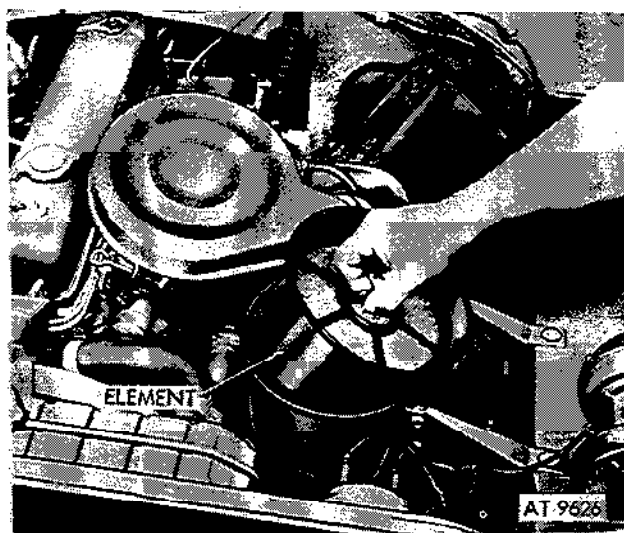

Figure 2-85. Remove air cleaner element.
(2) Lift out air cleaner element (fig. 2-85).